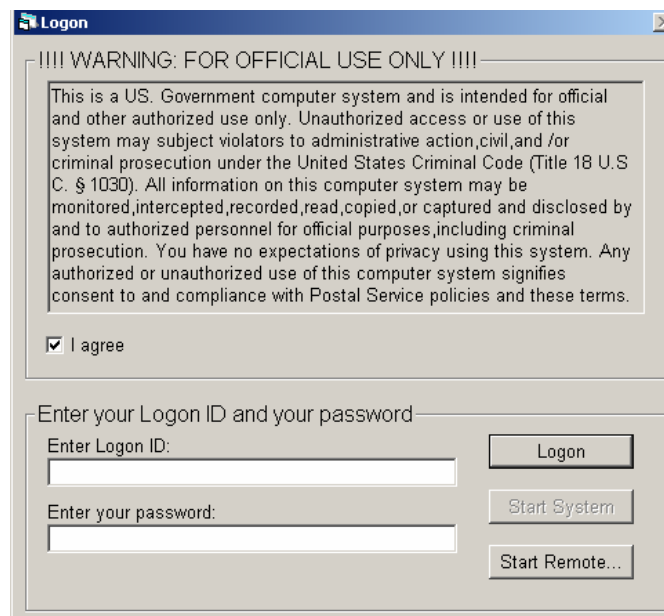

Figure 1-130. Logon Window
2. If not logged on, log on to the IMS application at the First RIC as SEC Technician (Figure 1-130).